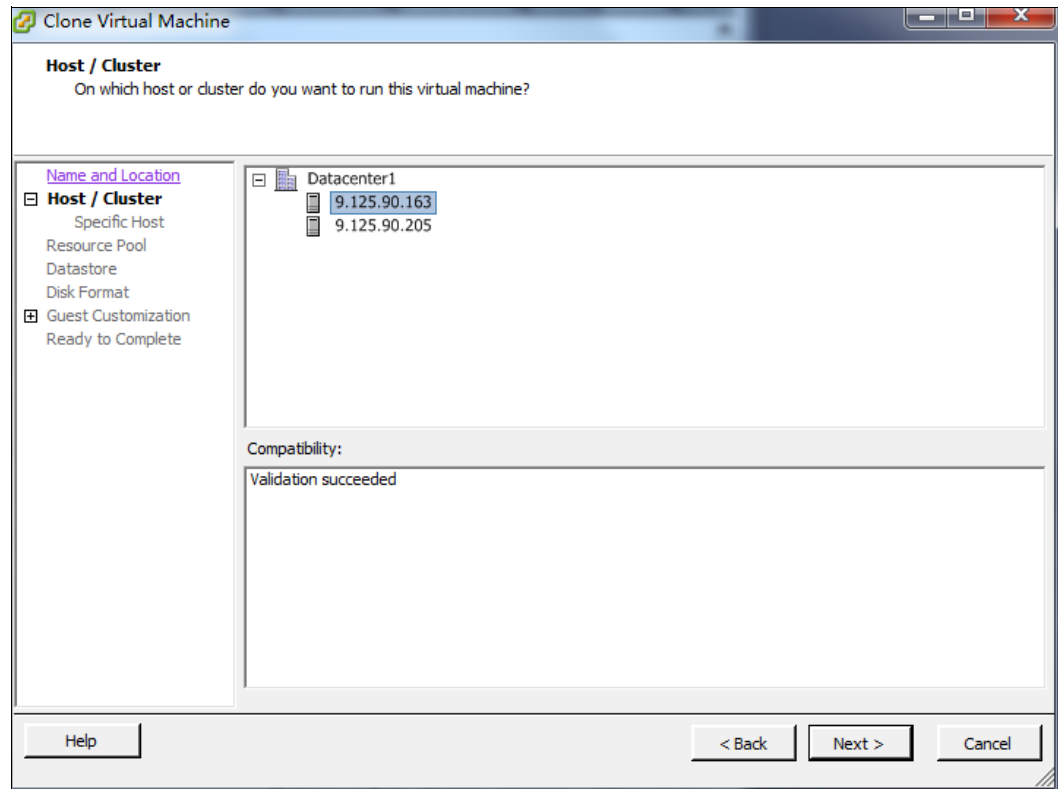

Figure 3-56 Clone Virtual Machine wizard: Host/Cluster
3. In the Host/Cluster window, as shown in Figure 3-56, select the destination server. Click **Next**.